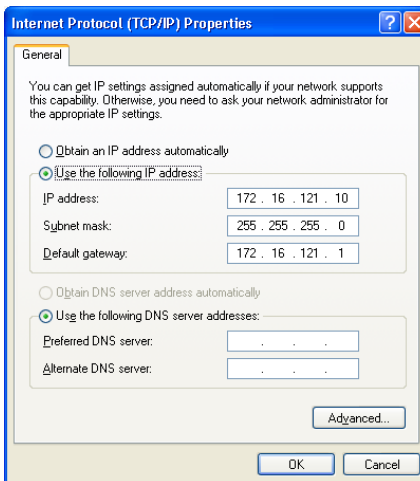

Figure 2. Manually Set PC network properties for connection to AutoRAE 2.
7. Set the corresponding PC Ethernet port IP address, subnet mask, and default gateway manually as shown in Figure 2 for connection to AutoRAE2.